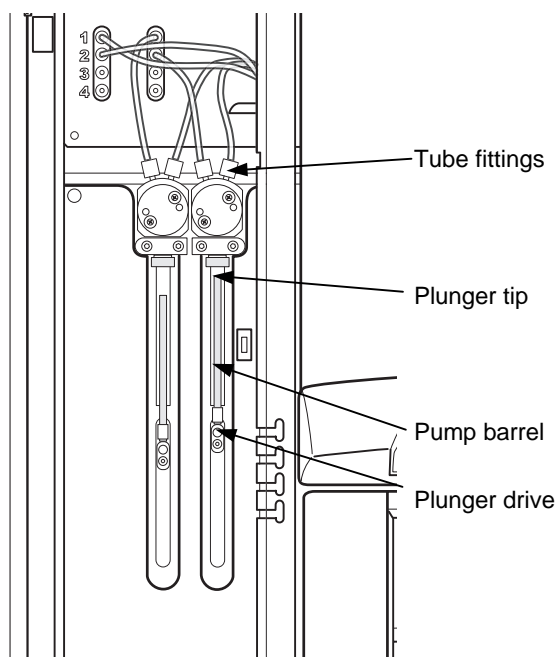

Figure B-4. Checking the syringe pumps for leakage.
- Syringe pump: tube fittings, inside the pump barrel, at the plunger drive (for details, see Figure B-4)